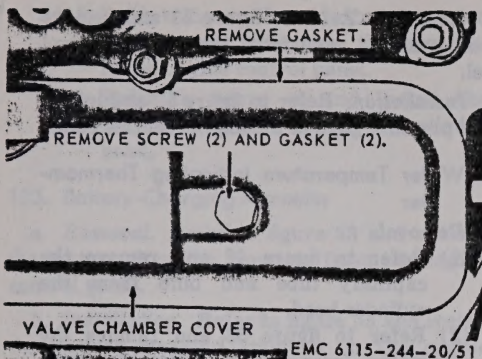

Figure 51. Valve chamber cover, removal and installation.
- (1) Remove the carburetor (par. 74).
- (2) Refer to figure 51 and remove the valve chamber cover from the engine.
- (1) Refer to figure 51 and install the valve chamber cover on the engine.
- (2) Install the carburetor (par. 74).